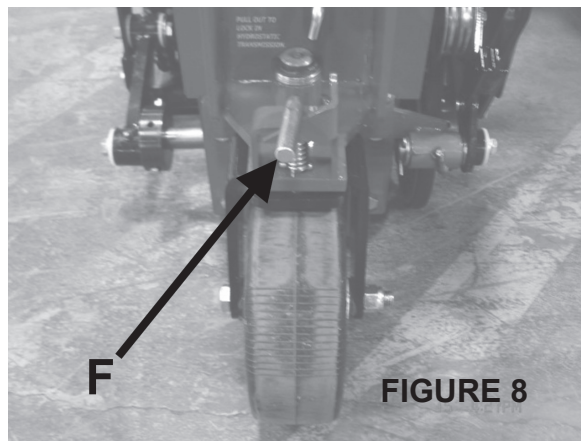

FIGURE 8
1. Pull pin **F** up and turn. **Figure 8 & 9**